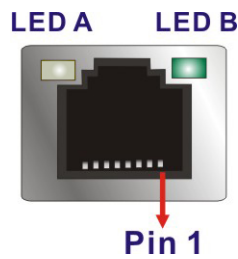

Figure 3-31: LAN Connector
- CN Pinouts:** See **Figure 3-31** , **Table 3-29** and **Table 3-30**